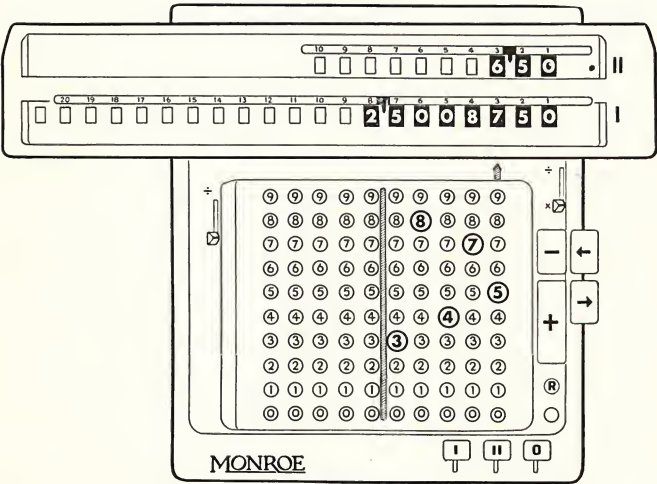

Figure 18
Step 2—Starting with the carriage in the “2” position, the equivalent is multiplied by 6.50. The result in the lower dials is 2.5008750, or 2.50, the net price. (Figure 18.)